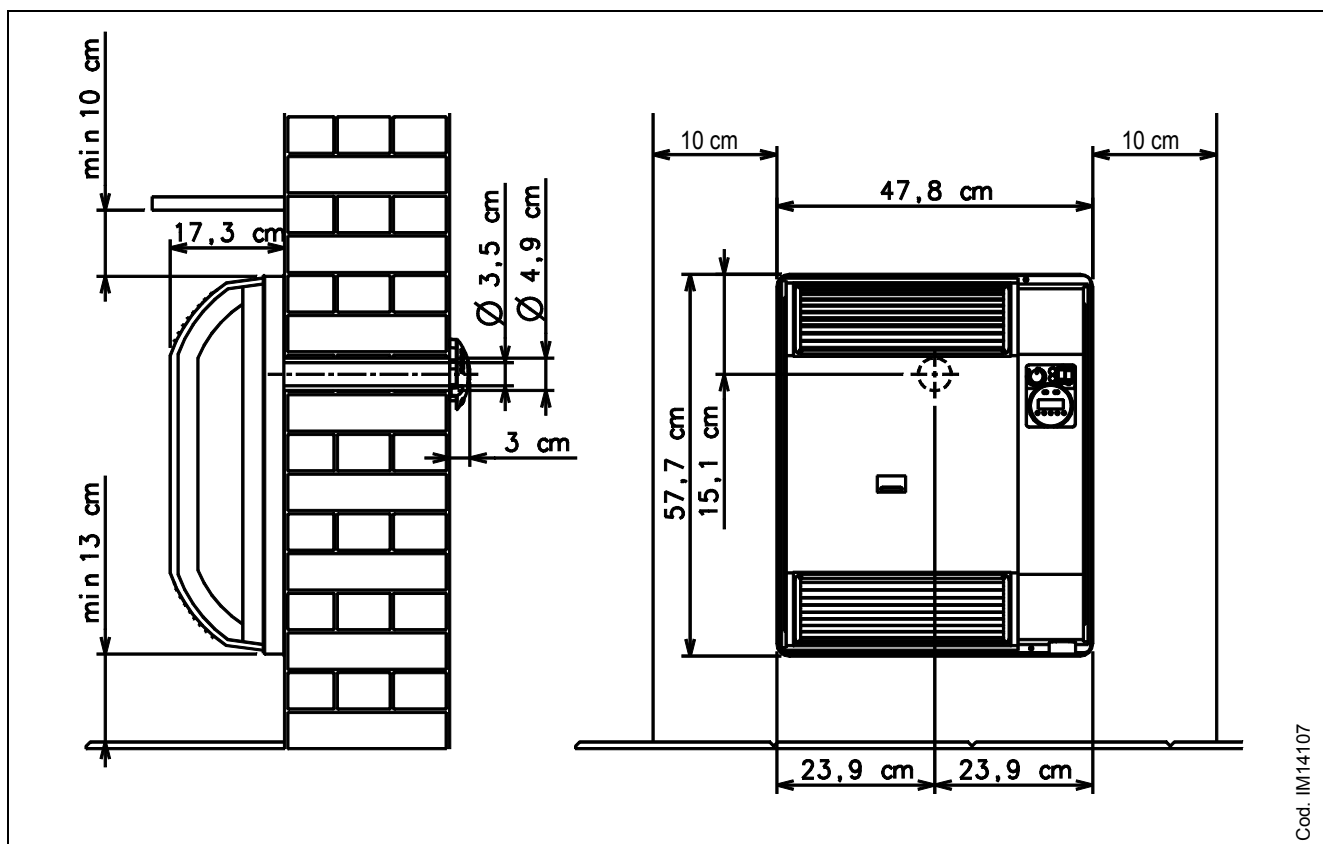
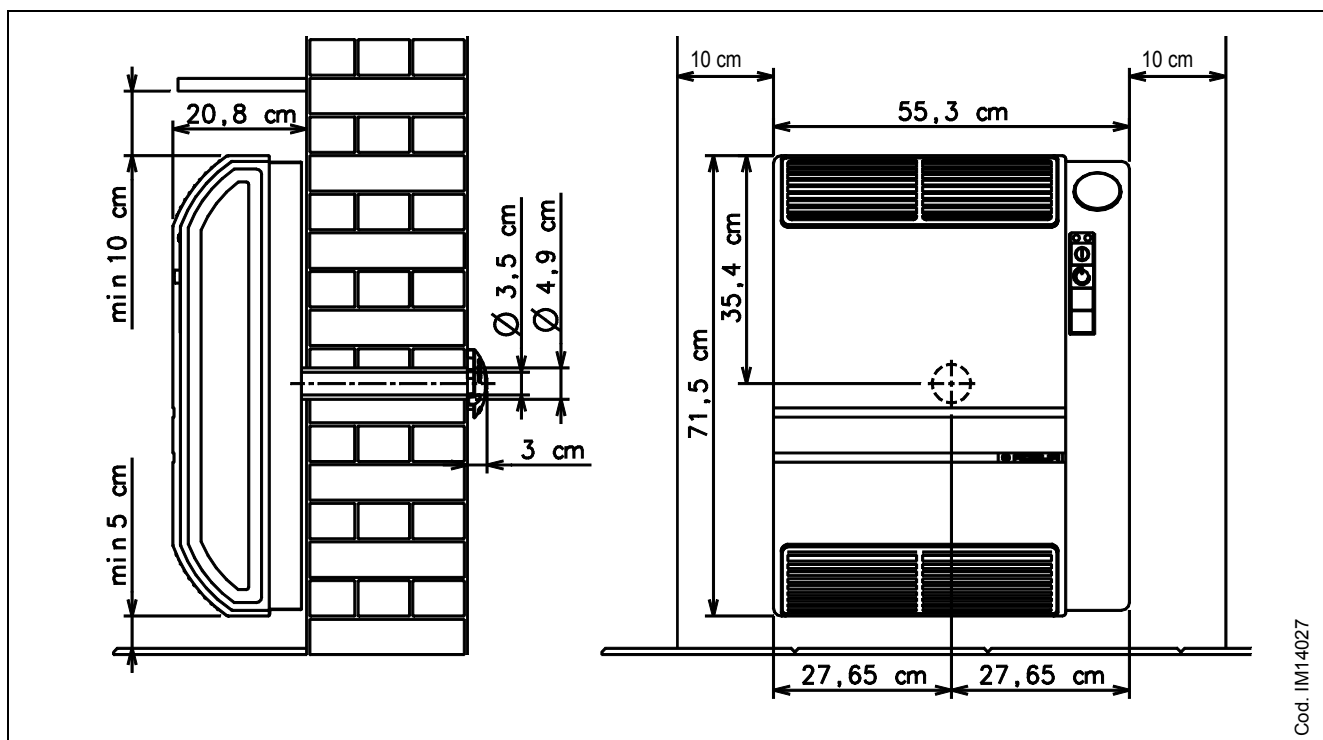
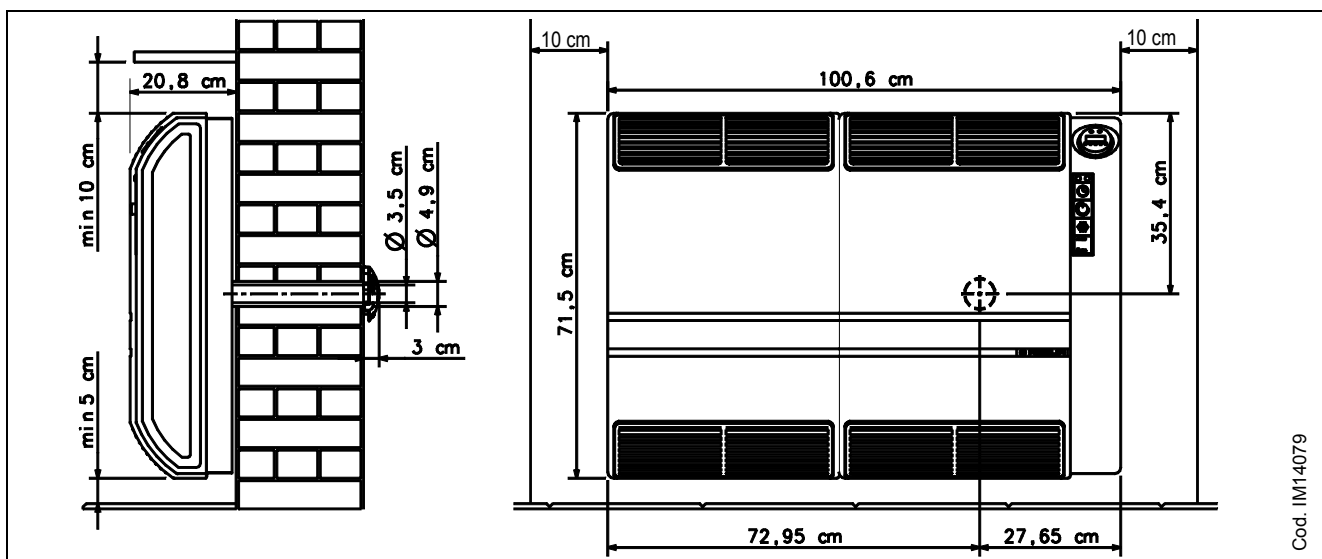

Figure 1 – EXTERNAL DIMENSIONS AND INSTALLATION LIMITS FOR MODELS 3001 AND 3002
Figure 2 – EXTERNAL DIMENSIONS AND INSTALLATION LIMITS FOR MODELS 4001-5001 AND 4002-5002
Figure 3 – EXTERNAL DIMENSIONS AND INSTALLATION LIMITS FOR MODELS 8001 AND 8002
1. The unit has to be installed on a perimetral wall taking into account the maximum distances shown in Figure 1 (for 3001 and 3002 models) in Figure 2 (for 4001, 4002, 5001 and 5002 models) and in Figure 3 (for 8001 and 8002 models). This is in order to have the necessary access space should it be required. The minimum suggested bottom line from the floor is 50 mm or 130 mm depending on the model (see Figure 1, Figure 2 and Figure 3). The maximum installation distance should not exceed 350 mm. In case of installation over this distance the distribution of heat in the room will not be uniform.